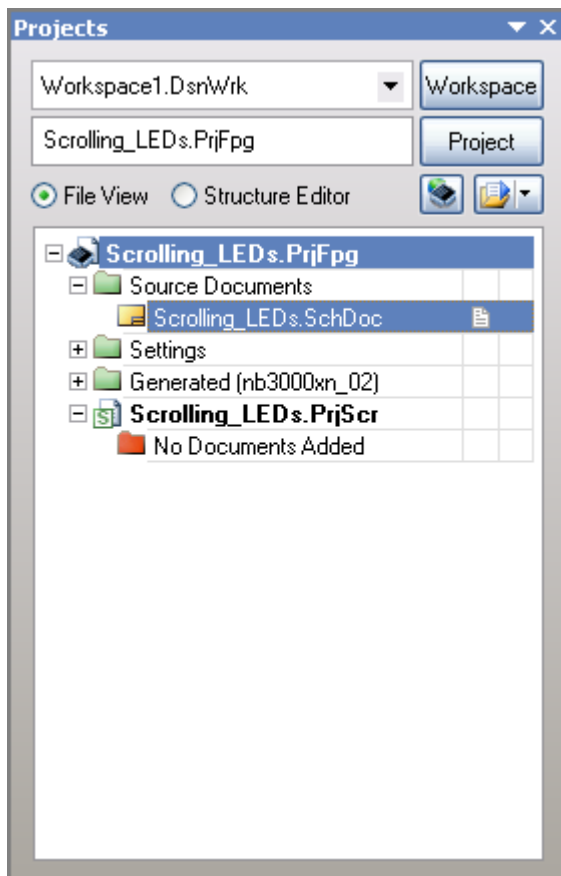

Figure 11. The new script project, shown as a child of the FPGA project.
38. This new script project is actually a child of the FPGA project, but will not be displayed as a child project yet. To force it to be displayed in the correct position, right-click on the NanoBoard Interface Configuration component again and select **Configure** from the floating menu to re-open the *NanoBoard Interface Configuration* dialog. When it opens the script project will move to its correct location, as shown in Figure 11.